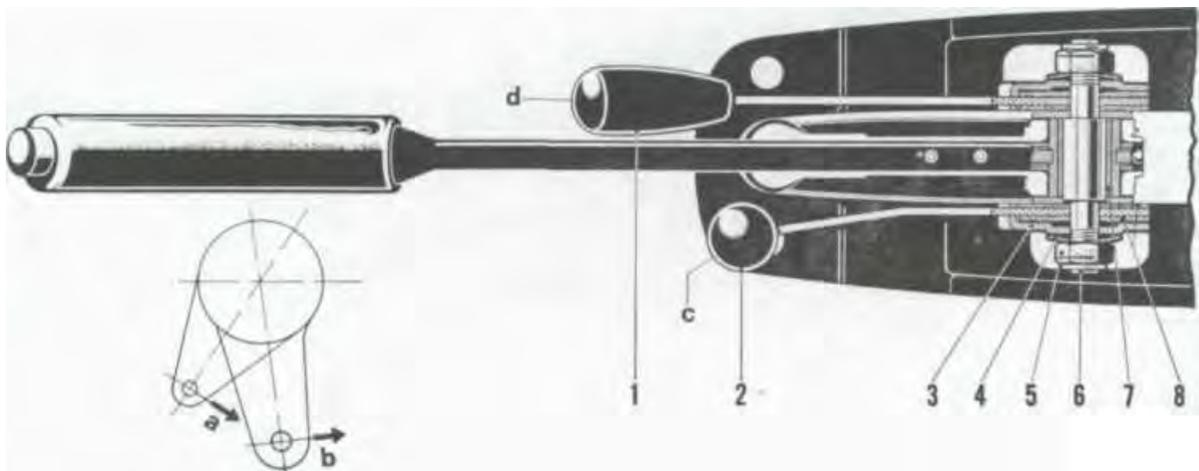

Fig. 22
4. Tighten the self-locking hex nuts so that the stud ends are about flush with the nuts and the limiting friction of heater lever clutch is 10 kp (22 lbs), and that of the hand throttle clutch is 6 kp (13 lbs). (See Fig. 22.)